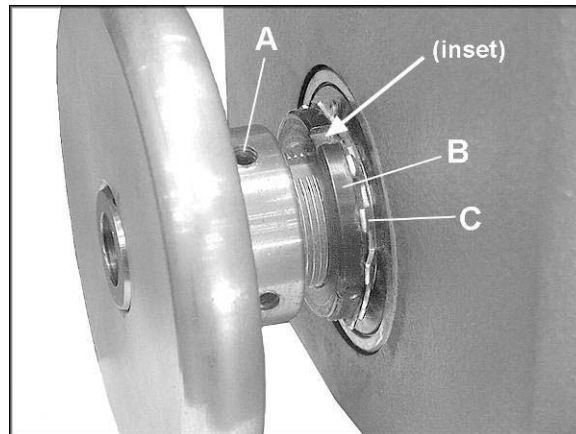

Figure 26
The spindle bearing has been set at the factory for general turning applications. There should be no "end play" or looseness along the spindle's axis. If any looseness should ever occur, it may be rectified by carefully tightening the bearing lock nut on the spindle, as follows. (See Figure 26).
1. Use a screwdriver to carefully bend back any tabs on the tabbed lock washer (C, Figure 26) that interfere with the insets on the bearing lock nut (B, Figure 26).
2. Place the end of a flat head screwdriver down against one of the insets of the bearing lock nut (B, Figure 26).
3. Tap the handle of the screwdriver with a mallet so that it turns the bearing lock nut (B, Figure 26) tighter in a clockwise direction. Rotate the bearing lock nut only about 1/16" at a time.
5. After the bearing lock nut (B, Figure 26) has been properly adjusted, *carefully* bend back into place any tabs on the tabbed lock washer (C, Figure 26).
4. Loosen the two set screws on the handwheel (A, Figure 26) with a hex wrench, and pull the handwheel off the headstock spindle.
5. Loosen and remove the bearing lock nut (B, Figure 26) and tabbed lock washer (C, Figure 26).
9. Slide the spindle back into place, install tabbed lock washer (C, Figure 26), and bearing lock nut (B, Figure 26). Check for any spindle play at this point (See "Checking Spindle Play").
10. Re-install the handwheel and tighten the set screws (A, Figure 26).
11. Align the new sheave (see "Sheave and Belt Alignment") then tighten the two set screws (C, Figure 26) securely on the sheave.